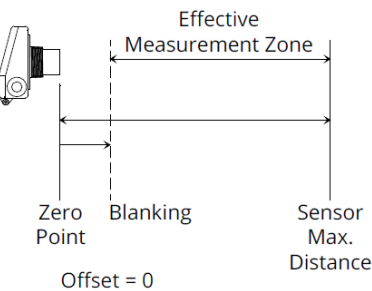
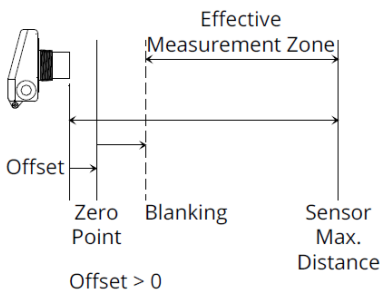

Figure 3.4
Figure 3.5
- Blanking is always measured from the Zero Point of the sensor. See Figures 3.4 – 3.6.
Offset is used to change the Zero Point of the sensor. This is not the zero output (4 mA, 0 V, etc.) point of the sensor. The Zero Point of the sensor is the point from which the calculated distance is measured. When the Offset is set to 0, the Zero Point of the sensor is at the face of the transducer (See Figure 3.4). A positive setting will move the Zero Point forward, in front of the sensor face (See Figure 3.5). Setting the Offset to a negative number